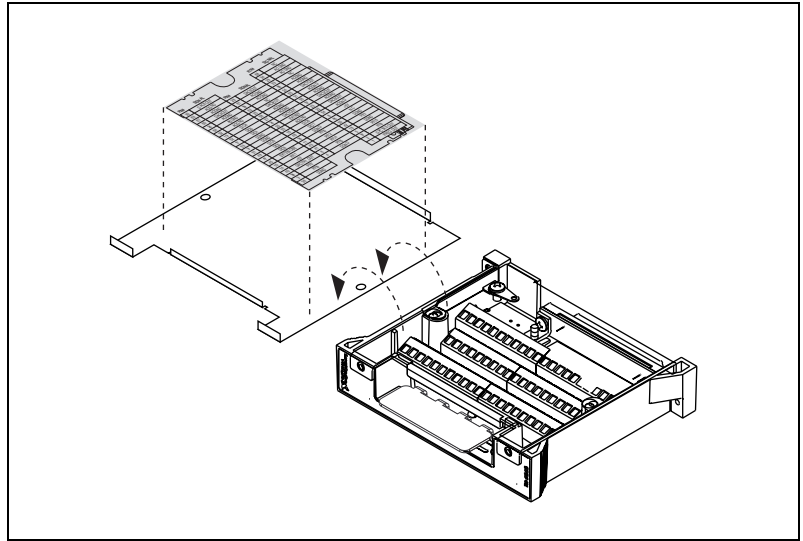

Figure 2. Inserting the Quick-Reference Label
2. Apply the appropriate quick reference label to the inside of the top cover as shown in Figure 2. This label provides the corresponding signal names on the PXI module for each pin number.